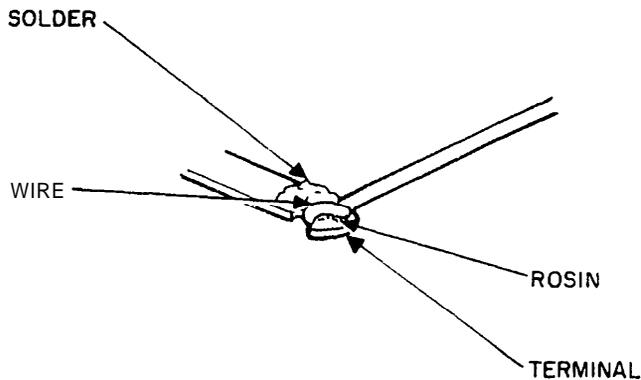

Figure 6. Example of Improperly Soldered Connection.
6.04 Figure 6 illustrates an improperly soldered connection where the solder has sweated to the terminal only, while between the solder and the wire there is a layer of rosin which insulates the solder from the wire. A connection of this kind is due to one of the following causes: